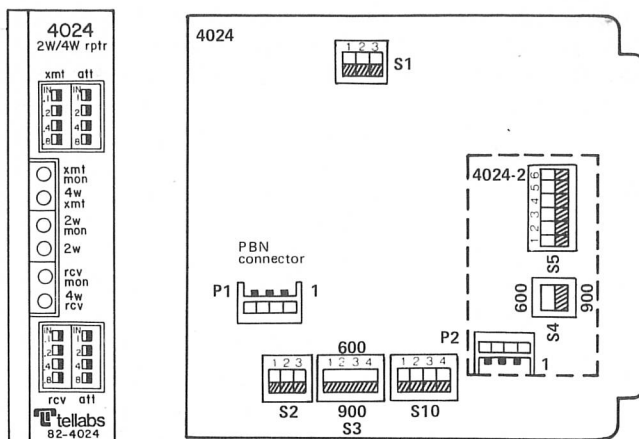

figure 2. Option switch locations
3.05 Ten option switches (all of which are DIP switches) must be set before the 4024 is placed into service. These switches and their functions are described in paragraphs 3.06 through 3.09. Locations of these switches on the module's front panel and printed circuit board are shown in figure 2.
Note: Verify that all option switches are set as shown in figure 2 before proceeding to the option selection paragraphs.